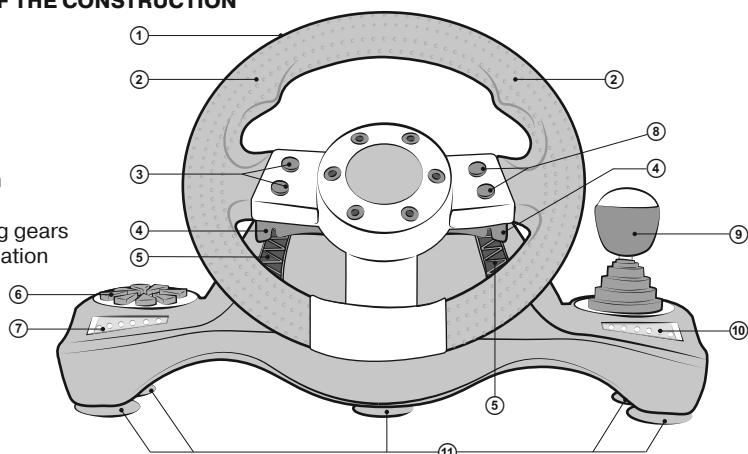

Fig. 1. Front view
- Game racing wheel is equipped with paddle shifters ④, that substitute acceleration and brake pedals: the left paddle shifter functions as a brake pedal, while the right paddle shifter functions as an acceleration pedal.
**Note. Game racing wheel is equipped with braking indication ⑦ and accelerating indication ⑩ see. Fig. 1. With a smooth pressing the acceleration pedal indicator lights up green, picking up speed indicator will light orange, then red. Depending on the smoothness of dropping speed indicator lights green, orange and red colors.**